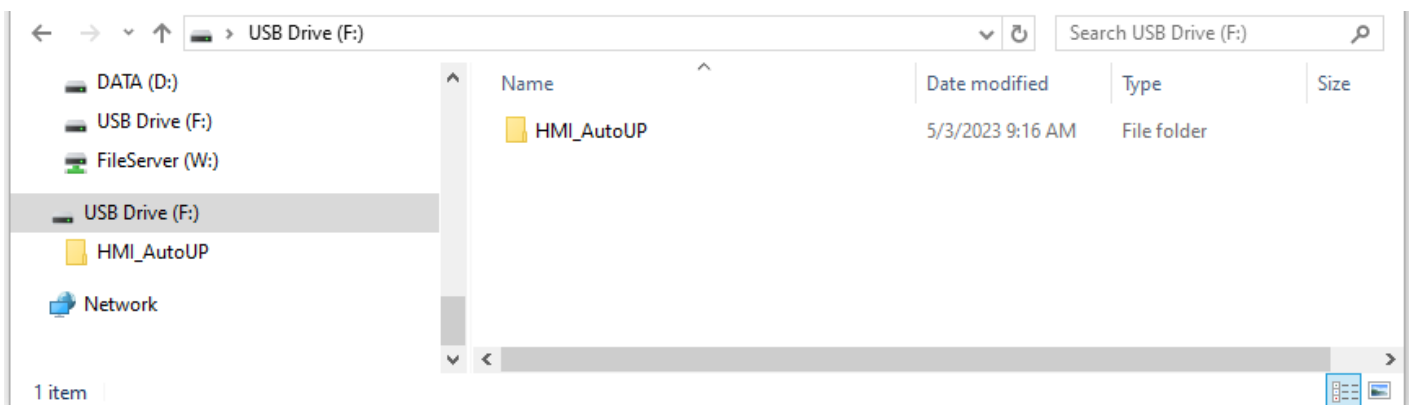

Figure 1: USB drive with HMI update file
3. Copy the folder named HMI_AutoUP on the root of the flash drive, so it looks like Figure 1.